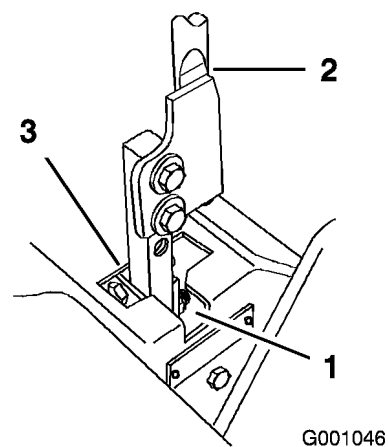

Figure 49
- Move lever to the neutral position but not locked (Figure 49).
7. Check where the control lever is relative to the notch in the console (Figure 49). It should be centered, allowing the lever to pivot outward to the neutral lock position.